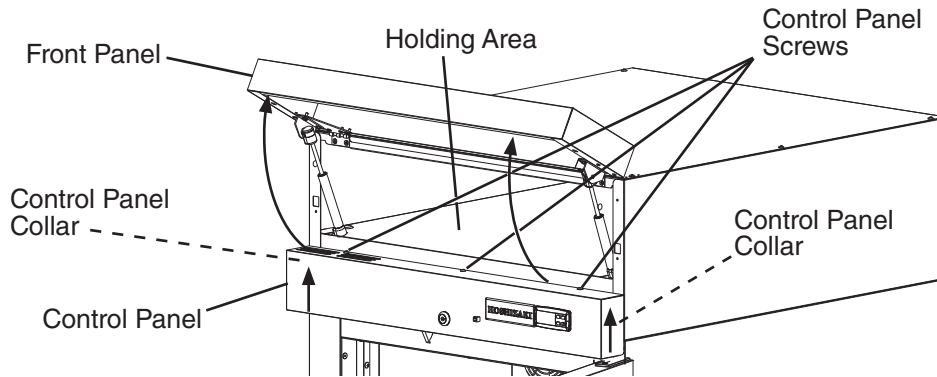

Fig. 21
- 2) Raise the front panel, then remove the control panel screws. Next, lift the control panel up and lift off of the control panel collars. Be careful not to pull the wires on the control module and door switch(es), remove the control panel and place in the holding area above the control panel. See Fig. 21.